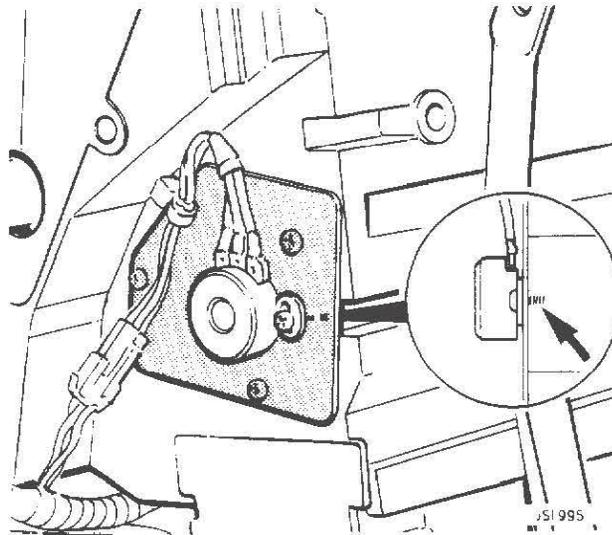

FIG 8
- (b) Anti-clockwise for warmer air at the footwell outlets, to overcome inverted temperature differentials (Fig 8).
IMPORTANT: BEFORE FITTING THE LATER TYPE POTENTIOMETER IT WILL BE NECESSARY TO FILE THE POTENTIOMETER FIXING SCREWS FLUSH WITH THE MOUNTING PLATE IN ORDER THAT THE MOUNTING PLATE CAN BE ACCEPTED INTO THE A/C UNIT CASE RECESS (THIS ACTION IS ONLY REQUIRED WHEN REPLACING POTENTIOMETER PART NO. JLM 754). SEE INSET FIG 8.